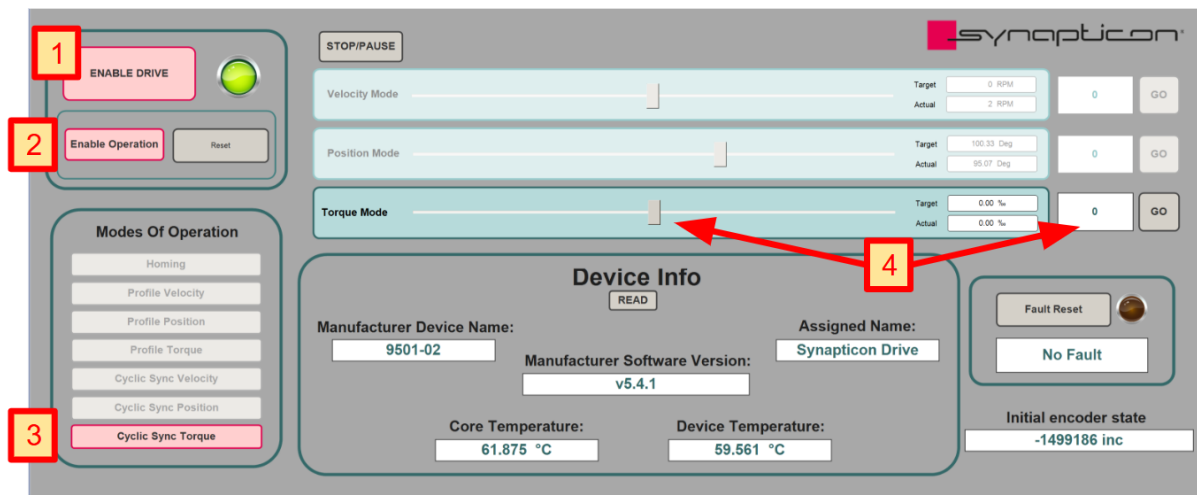

Figure 5.30 - Controlling the drive in cyclic sync torque mode
5. Press the “GO” button. For clarification, refer to Figure 5.30.